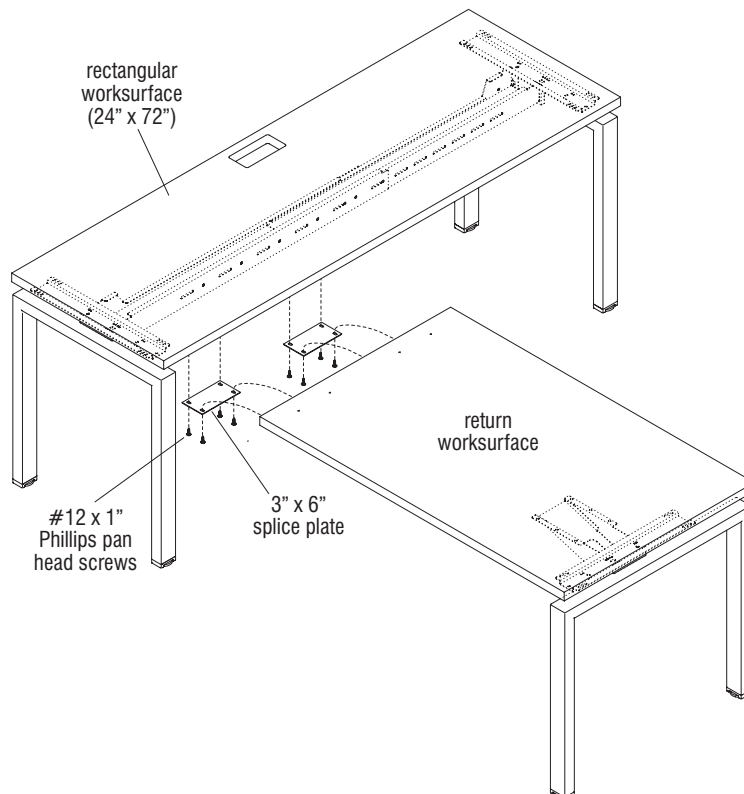

Figure 2 - Single-Sided Fixed Benching - Perpendicular Support Frame Installation
2. At the underside edge of the rectangular worksurface, where the return is to adjoin, secure two 3" x 6" splice plates, using two #12 x 1" Phillips pan head screws each plate, as illustrated (Figure 2).
3. Carefully turn the return worksurface over and rest the adjoining edge squarely onto the splice plates of the rectangular worksurface. Take care to make sure the return surface is square and the worksurface edges are tight. Adjust the glides of the perpendicular support frame to assure the return surface is level to the rectangular worksurface, then secure the splice plates to the underside of the return worksurface using four #12 x 1" Phillips pan head screws (Figure 2).